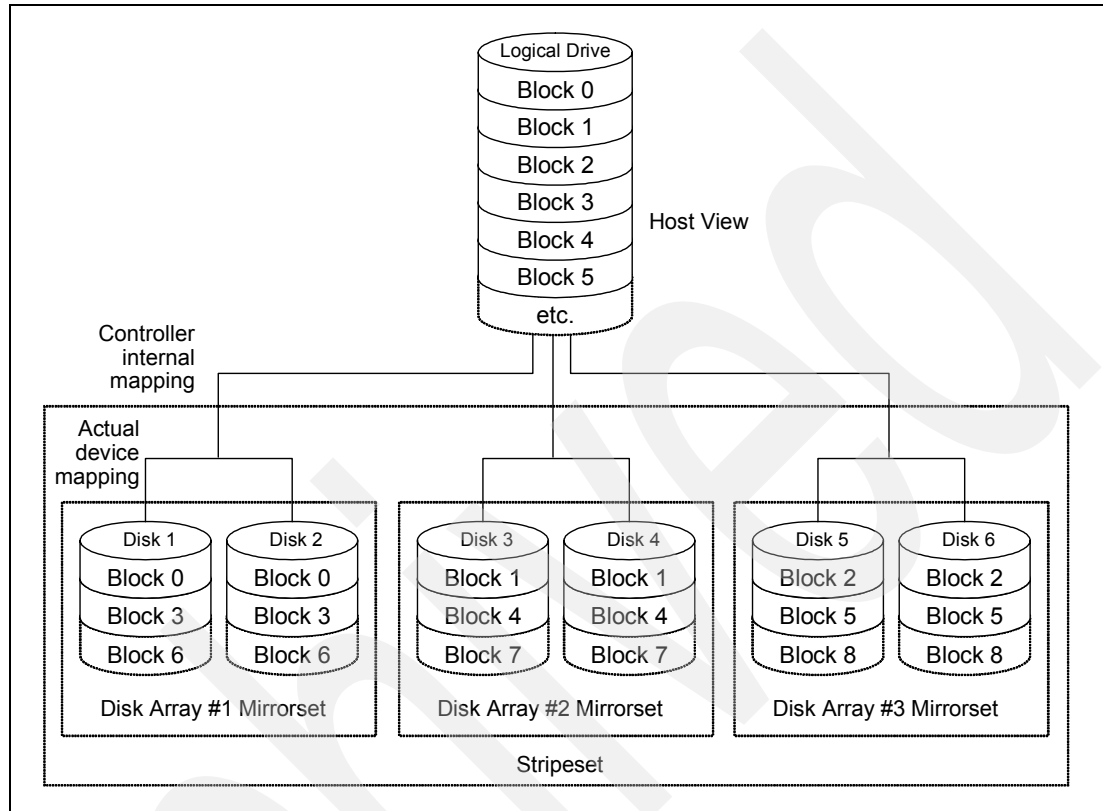

Figure 2-20 RAID-10
- ▶ RAID-10: Higher performance than RAID-1 (Figure 2-20)